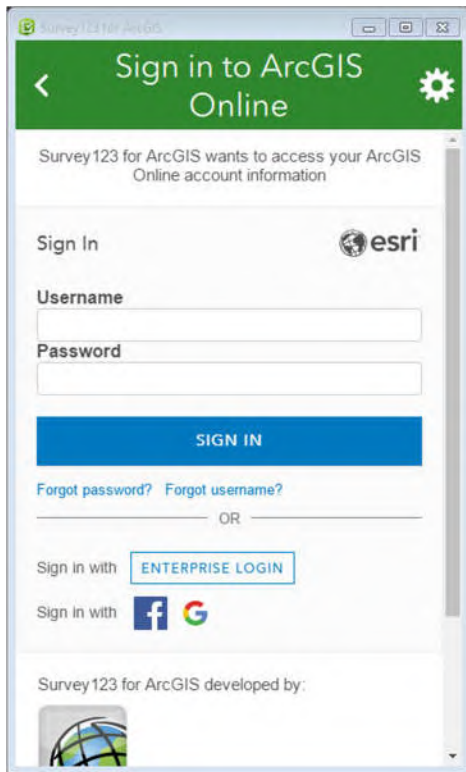

Figure 2- Survey123 Sign In Screen
2. Click the "Sign-In" button at the bottom of the application window. This will open the Sign In screen (Figure 2).